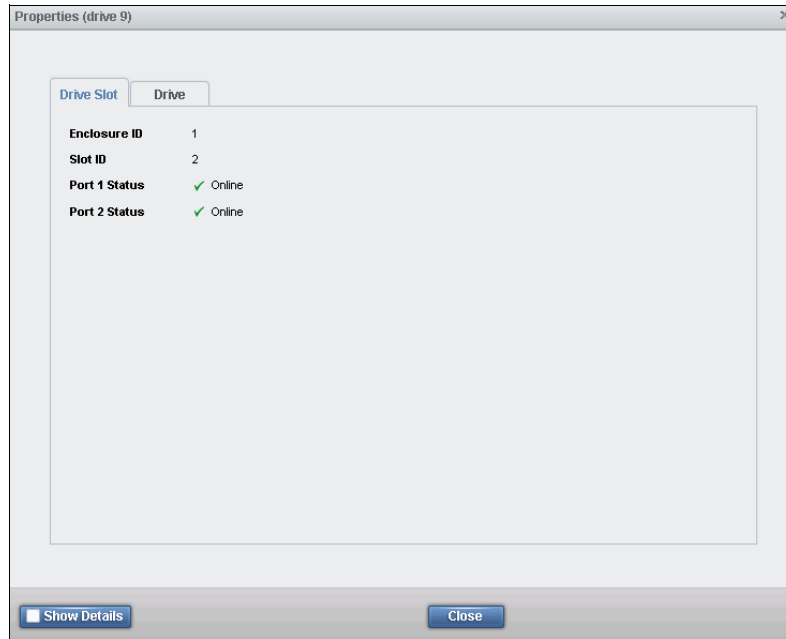

Figure 7-17 Internal drive properties slot
3. A tab for the Drive Slot is available in the Properties pane (as shown in Figure 7-17) to get specific information about the slot of the selected drive.